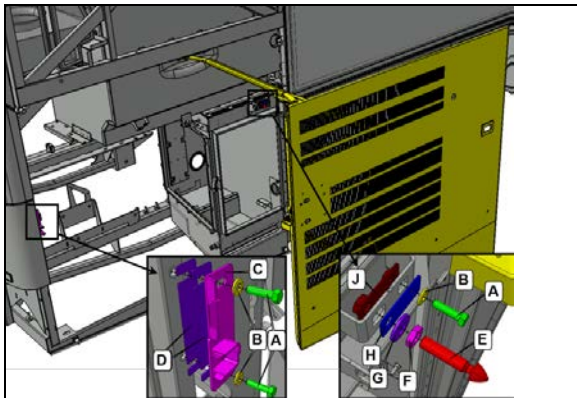

FIGURE 52
9. Install strike plate C and pin E centered in the available adjustment position provided by respective slotted holes (FIGURE 52). The components should be snug but not tight so that they can move when the door will be closed later on in this procedure.